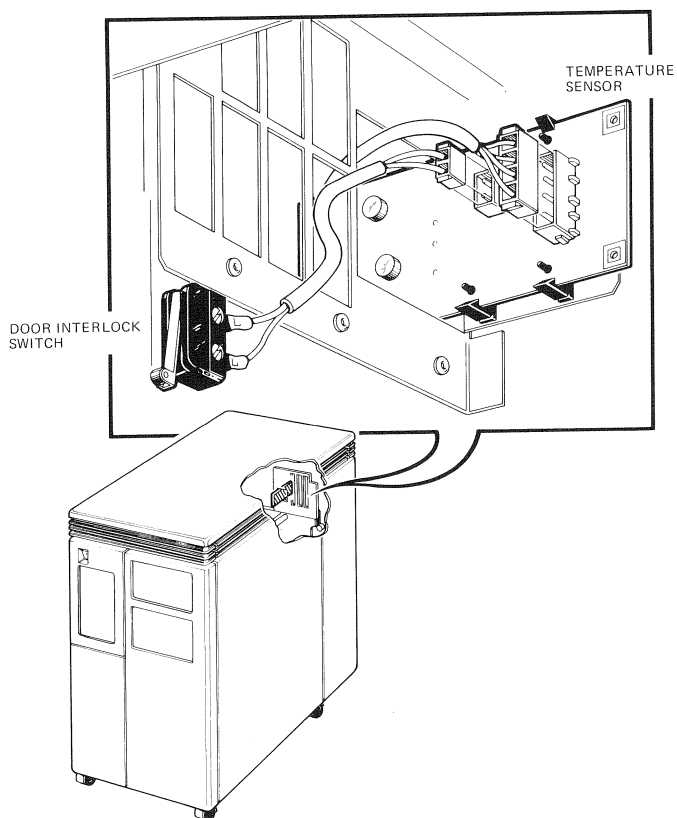

Figure 10-18 Temperature Sensor/Door Switch
3. Disconnect the cable connecting the switch to the temperature sensor as shown in Figure 10-18.
3. Disconnect the cable connecting the switch to the temperature sensor (Figure 10-18).